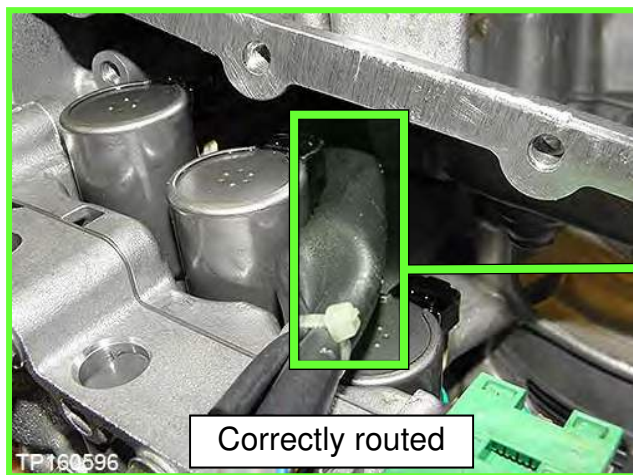
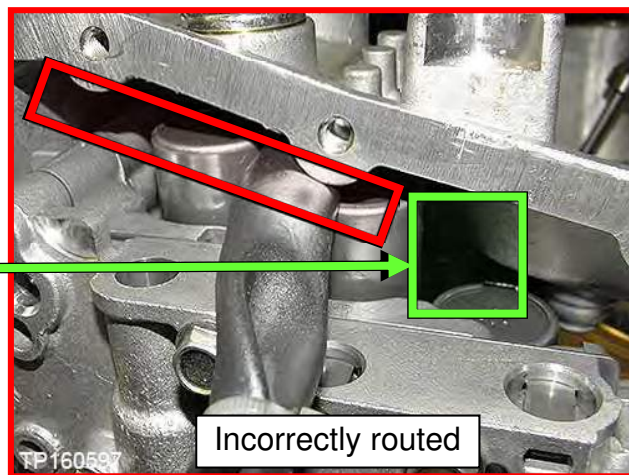

Figure 164
Figure 165
- Leave four (4) ✕ bolt holes empty at this step.
- Make sure the wiring harness is not pinched (see Figure 164 and Figure 165 for correct routing).